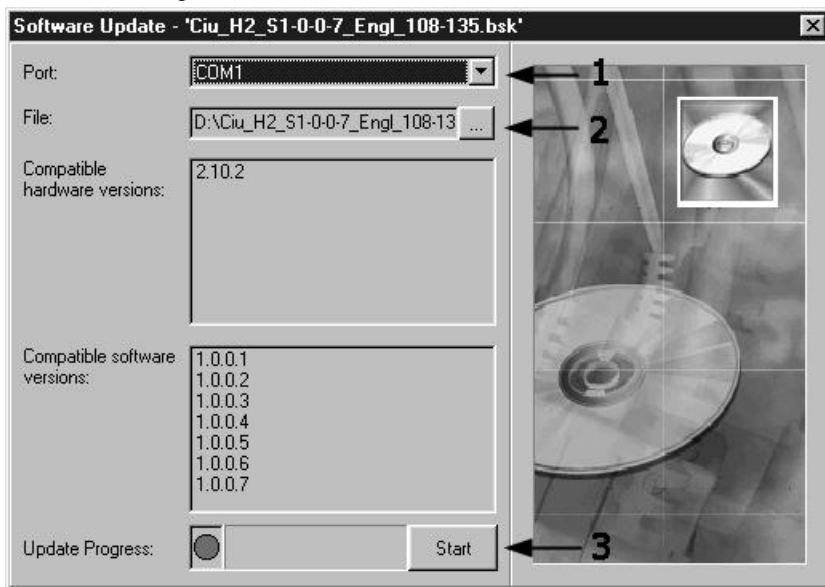

Figure 4.16
d) start SoftLoader program on your PC. Select serial port of PC, which connects it to the CIU-01, by clicking (position 1) in the program window, as shown in Fig. 4.16;